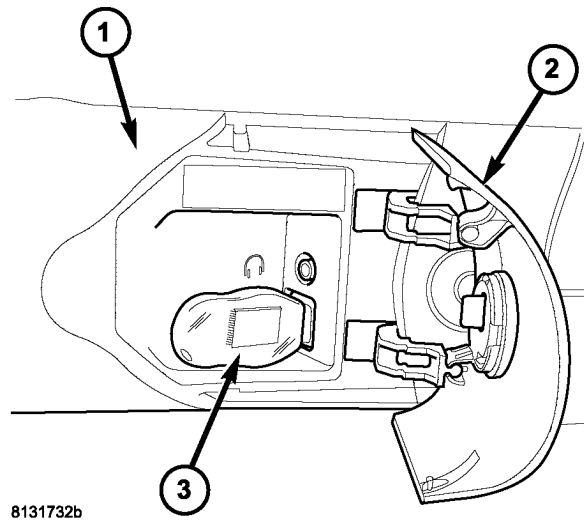

Fig. 1 USB KEY AND TechCONNECT PC
2. Insert the USB Key, into the USB port on the TechCONNECT or equivalent PC, (Fig. 1).